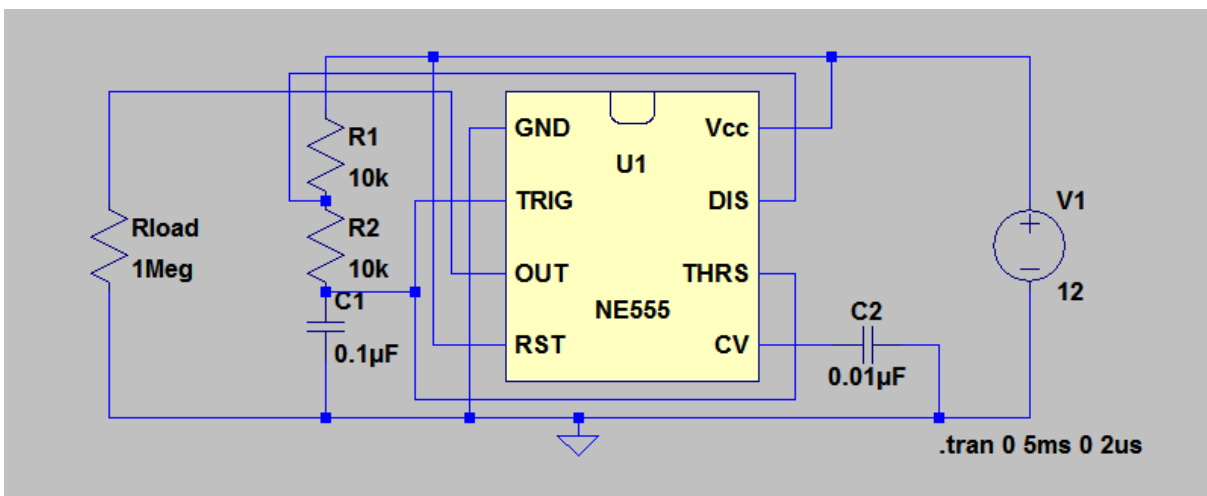

Figure A-4.
- Draw the circuit in Figure A-4 in LTspice.